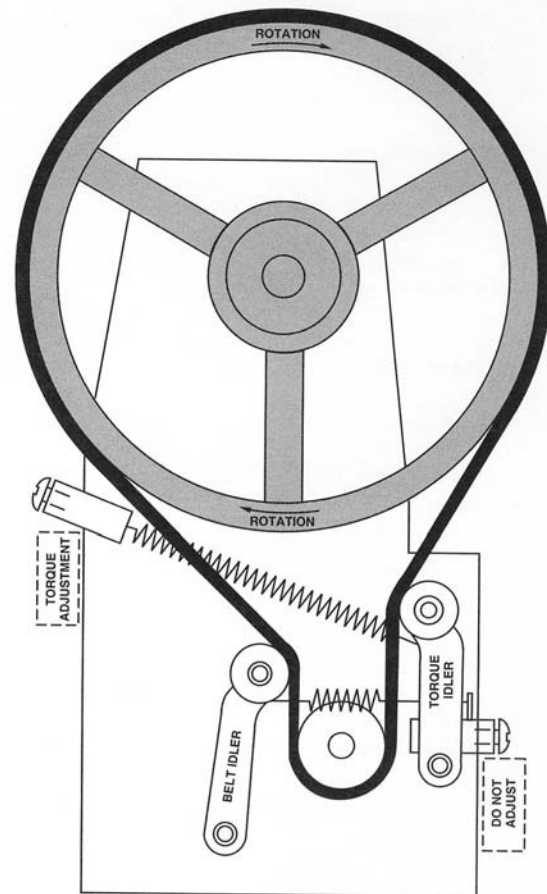

Fig. 18
The consistency control system (Fig. 18) is a very simple method of controlling the consistency of the finished product. The machine operates without a temperature control. Refrigeration is controlled by measuring the torque on the dasher motor and the consistency of the product. The tension of a spring against the torque idler determines how long the unit will run by activating a limit switch which turns the compressor on and off. The longer the compressor runs, the harder the product. The less it runs, the softer the product. This directly relates to product temperature.
2. Using a regular screwdriver, turn the consistency adjustment (torque adjustment) screw (Fig. 18) clockwise to make the product harder and counterclockwise to make the product softer. Do not adjust more than two turns each time. Do not attempt to adjust the belt idler screw on the other side of the machine marked "Do Not Adjust".